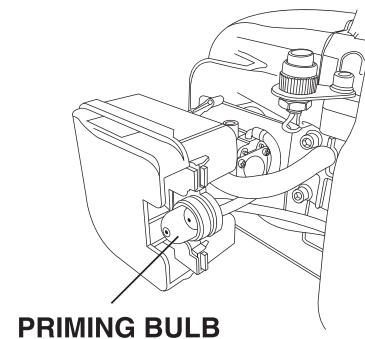

Figure 2
5.1.2 Press the priming bulb (Figure 2) repeatedly until fuel can be seen inside the fuel lines.